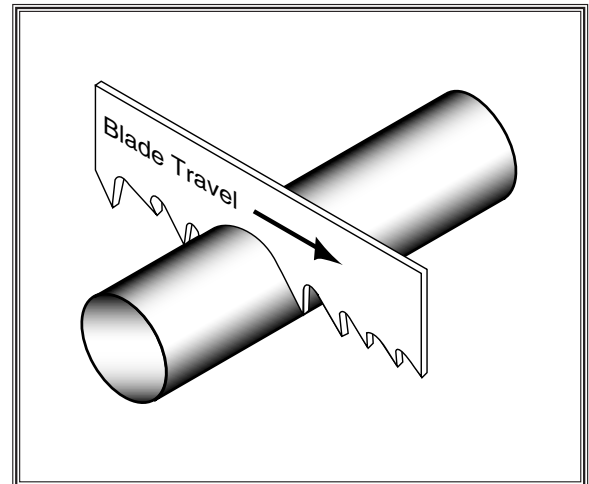

Figure 34. Blade cutting direction.
*Note: It is sometimes possible to flip the blade inside out, and the blade teeth will be pointing in the wrong direction. Make sure the blade teeth are facing toward the workpiece, as shown in **Figure 34**, before mounting on the bandsaw.*